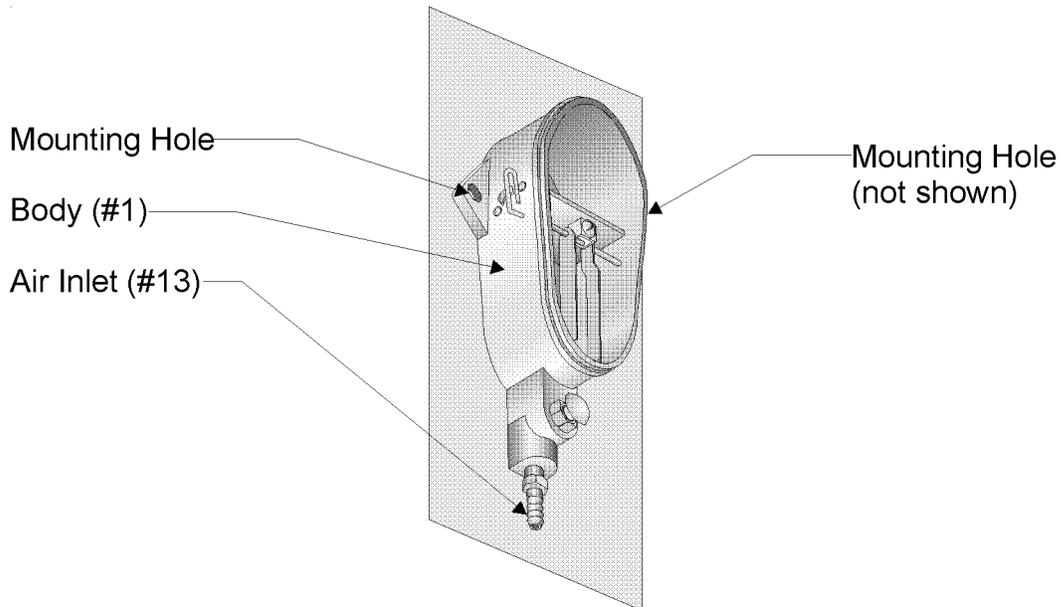

Figure 1 — Mounting the Spark Plug Cleaner
Step 2: Fasten your Spark Plug Cleaner to the wall with the AIR INLET (#13) pointing towards the floor. Use the Mounting Holes in the BODY (#1) as shown in Figure 1.